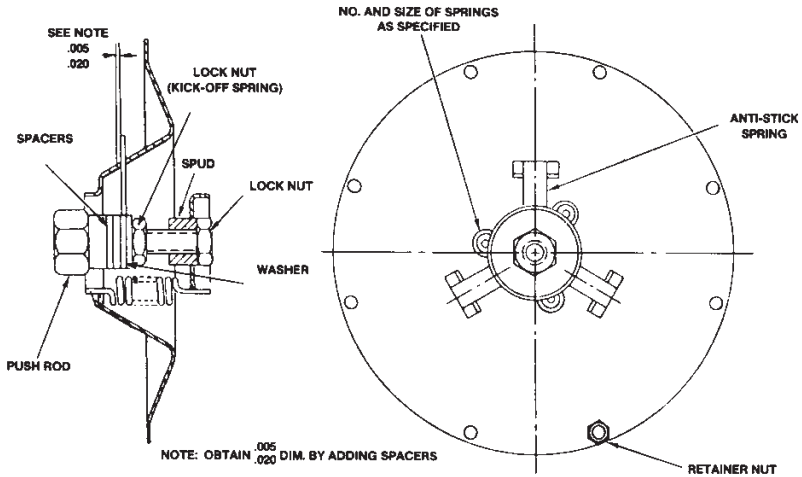

Figure 4-2. Kickoff Spring Assembly
C. 3-3/4-inch Dia. Bellows w/Kickoff* Spring (see Figure 4-2)
- C. 3-3/4-inch Dia. Bellows w/Kickoff* Spring (Cont.)** (see Figure 4-2)